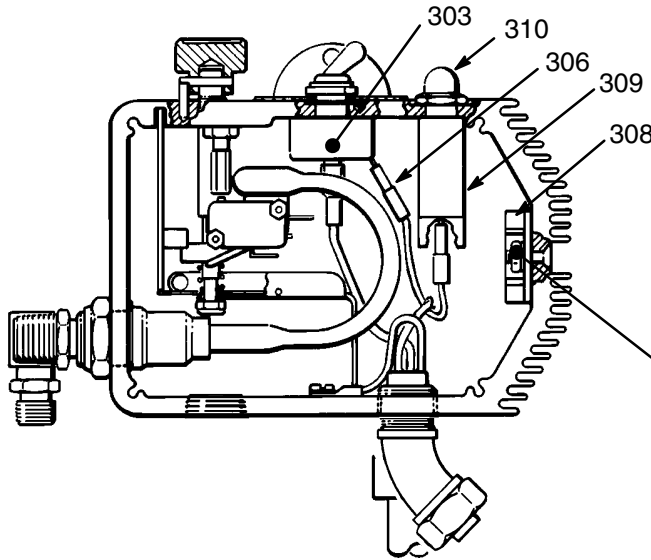

Fig 27-1
The lockwashers (333) must be in front of the bridge to avoid overheating which will result in bridge failure. Refer to the DETAIL in Fig 27-1.
Refer to Fig 27-1.